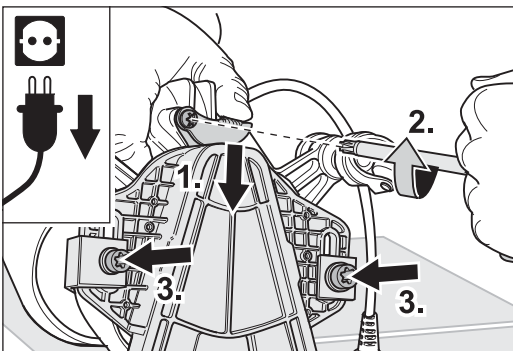

Fig. 32 Hold the FLIP® by the fan housing, press on the belt tightening plate (1.) and retighten the three screws (2. and 3.).
- 6 Hold the FLIP® by the fan housing and press the belt tightening plate forward towards the attachment at the same time with your thumb (Fig. 32, 1.). Use your other hand and the universal spanner to retighten the three screws (Fig. 32, 2. and 3.).